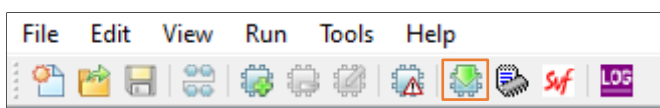

Figure 6.8. Programming Menu Bar
6. Click **Programming** from the menu bar to start programming as shown in Figure 6.8.